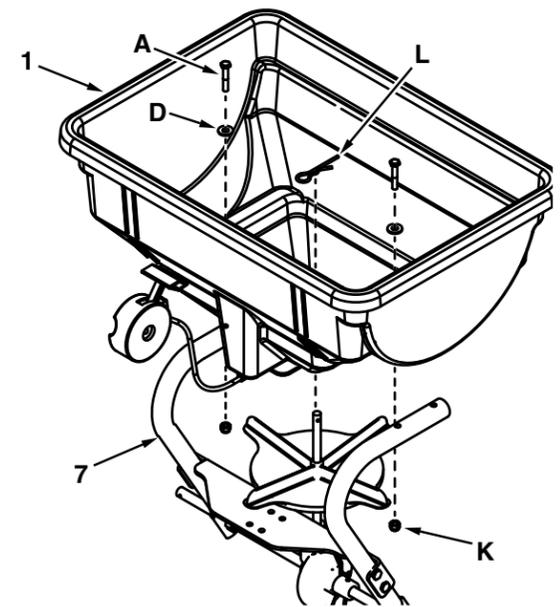

Figure 5
STEP 5 (SEE FIGURE 5): Attach the hopper (1) to the frame assembly using two 1/4 x 1-3/4" hex bolts (A), and a small washer (D) and 1/4" nylock nuts (K). Insert the hairpin agitator (L) into the impeller shaft making sure that it is secured in place and horizontal. Tighten hardware.